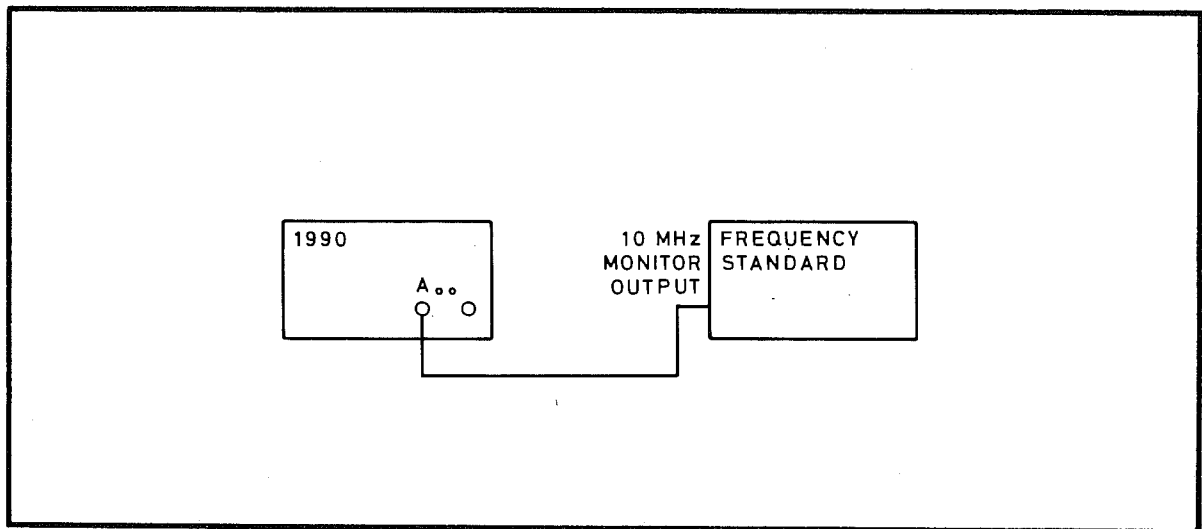

Fig 7.28 Connections for Internal Frequency Standard PVP:
- 72 (1) Select 7 digit resolution on the 1990, and verify that 0000000 is displayed. Check that both trigger level controls are in the switched 0 V position
- (2) Connect the test equipment as shown in Fig 7.28.